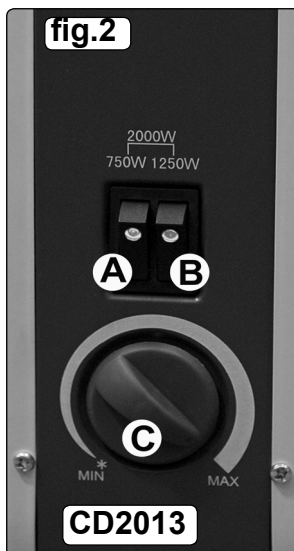

fig.2
- 4.4. Turn the thermostat knob (figs.2&3 C) to a high setting.
- 4.5. **Selecting the heat output. (Refer to figs.2&3)**
- 4.6. **Using the thermostat.(figs. 2&3 C)**